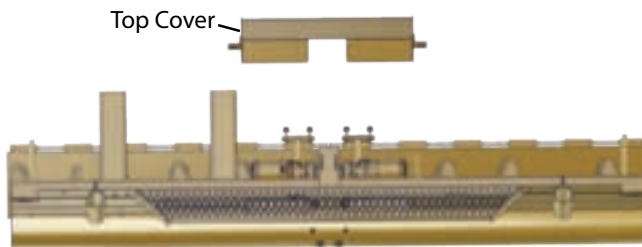

Figure 5-34. Remove Top Cover (Top View)
3. Remove the two (2) nuts holding top cover on and pry cover apart. **(Figure 5-34)**